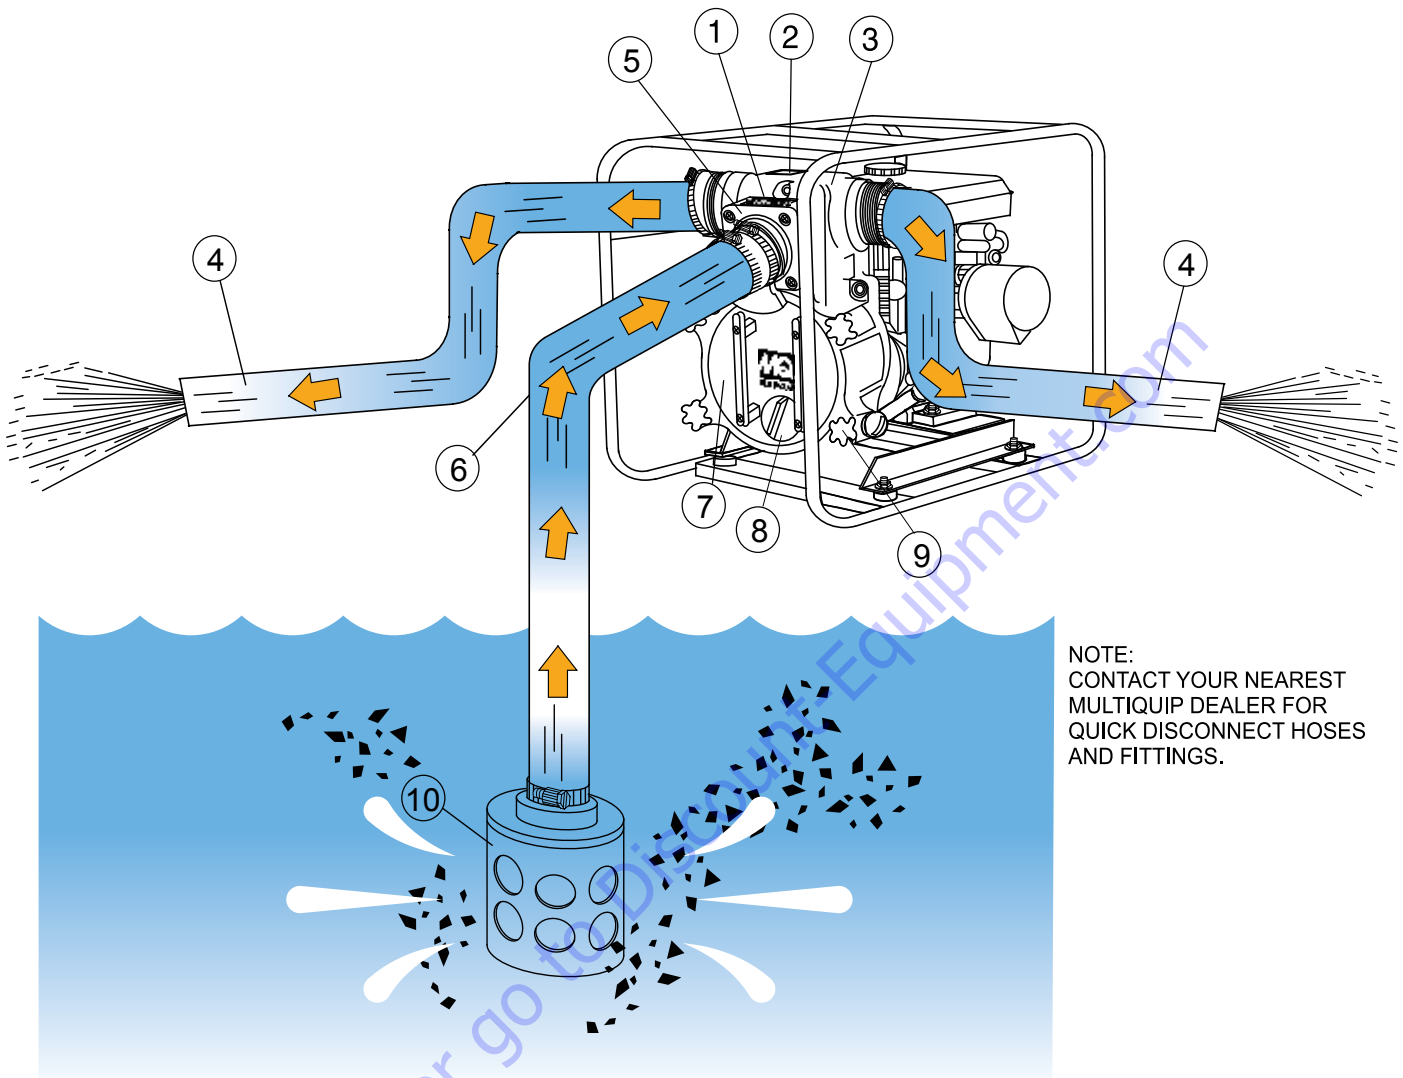

Figure 3. QP3TH Key Components
Figure 3 shows key components of the QPT3H.
3. Initially prime the pump by removing the fill cap (see Figure 3) and filling the casing with water. If the pump casing is not filled with water prior to operations, it will not be able to start the pumping process and you risk overheating the mechanical seal assembly.